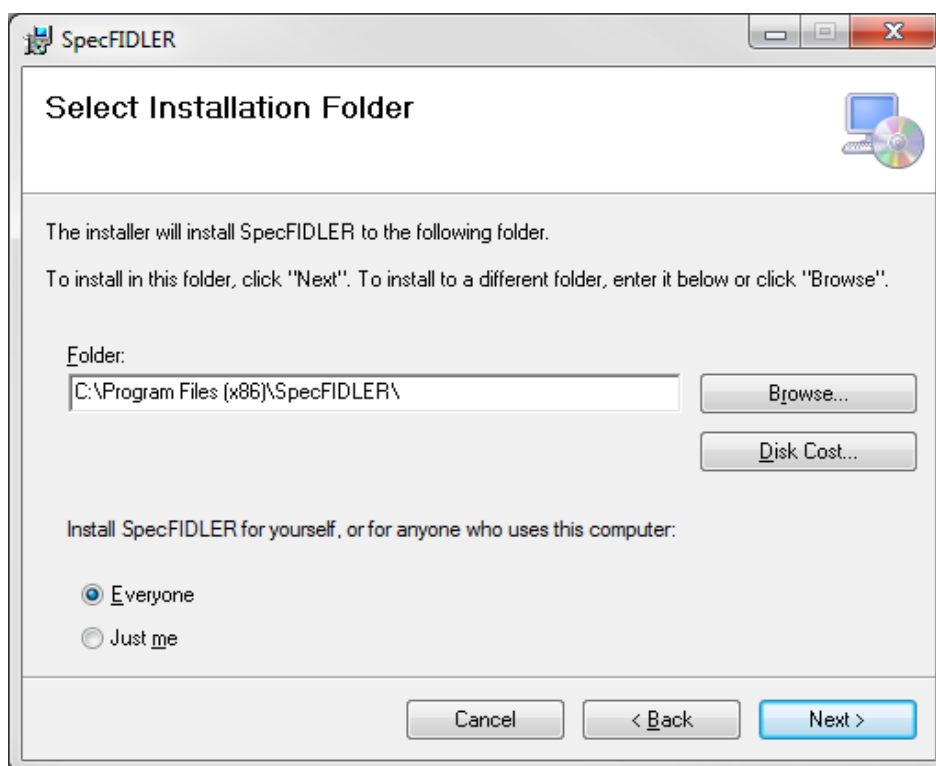

Figure 8. SpecFIDLER setup wizard.
3. Next, install the SpecFIDLER software. Locate the temporary folder and run **setup.exe**. Click **Next** and select the installation folder (Figure 8). Click **Next** two more times. If a dialog appears asking to confirm security access to the installer, select **Yes**.